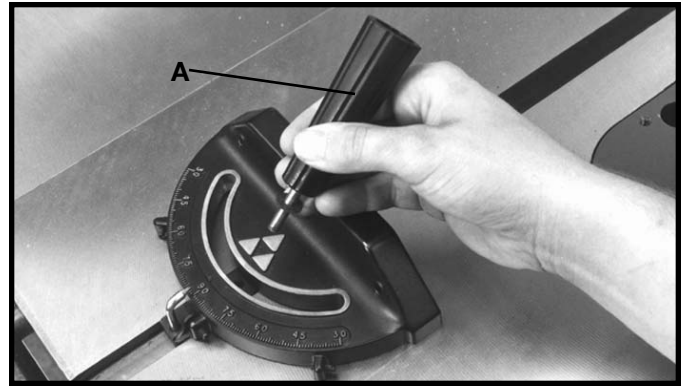

Fig. 114
Insert the miter gage bar into the miter gage slot and assemble the washer and lock handle (A) Fig. 114, to the miter gage bar as shown.